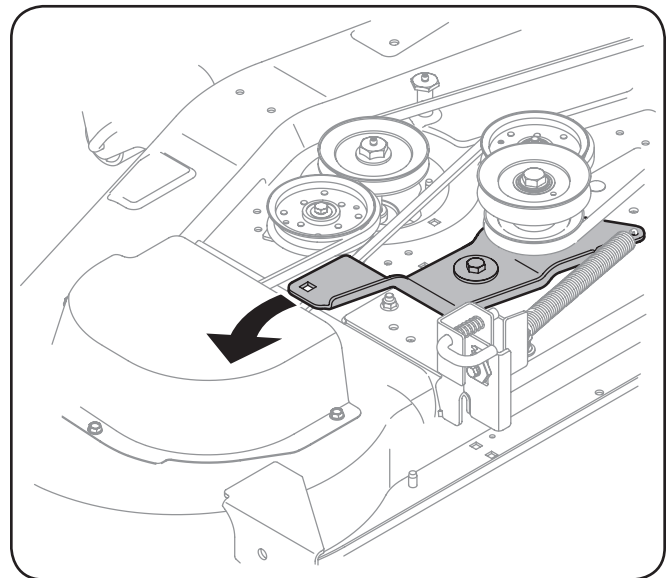

Figure 7-4
4. Pivot the wrench rearward to move the deck drive pulley forward. See Figure 7-4.
4. Pivot the wrench rearward to move the deck drive pulley forward and relieve tension on the deck belt. Refer to Figure 7-4.